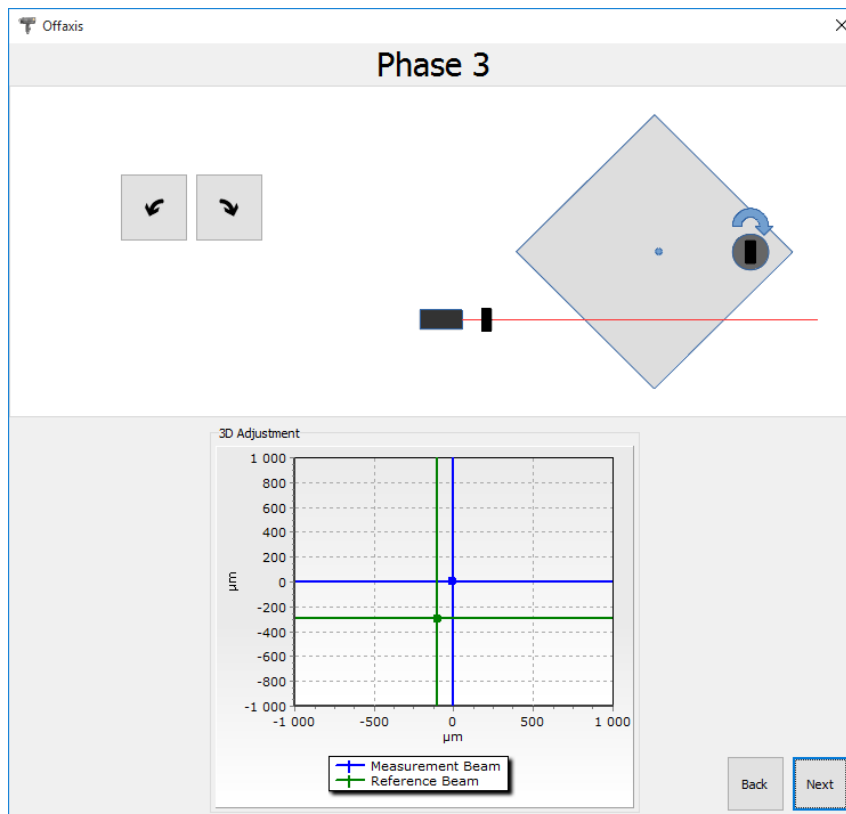

FIG.14.19. PHASE 3 OF THE OFF-AXIS PATH GENERATION
- 3) **Phase 3** – Wally is to be rotated in the same direction like the machine. As shown in the figure 14.19, in the Phase 3 there are available two buttons with arrows. Pressing the buttons rotates Wally by predefined +45 or -45 degrees.